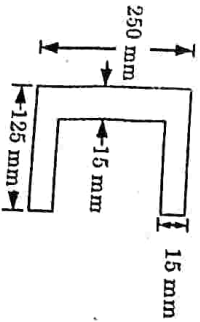

Fig. 4.
c. Determine the shear centre for the channel section shown in Fig. 4.